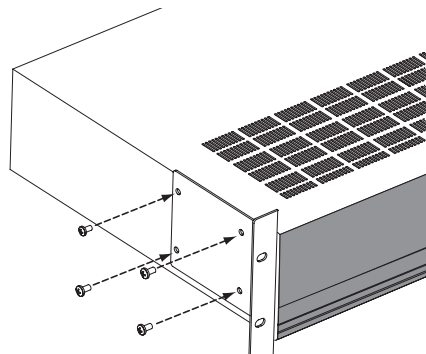

Figure 3-56.
1. Place the bracket mount onto the side of the S8.6 chassis. **(Figure 3-56).**